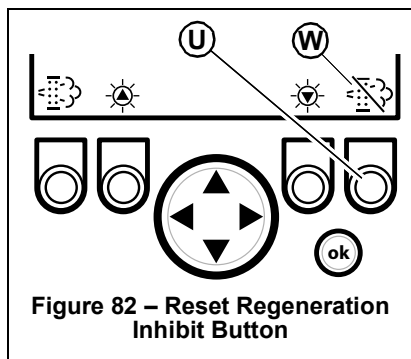

Figure 82 – Reset Regeneration Inhibit Button
To temporarily inhibit reset regeneration, hold down button (U, Figure 82) until the strikethrough in the Reset Regeneration symbol (W) turns to red.
Note: The stationary regeneration request screen can be temporarily dismissed by pressing the reset regeneration inhibit button (U, Figure 82) for 3 seconds. Until the previous screen displays. The stationary regeneration request screen will return 1 minute after being dismissed, for as long as the request remains active.